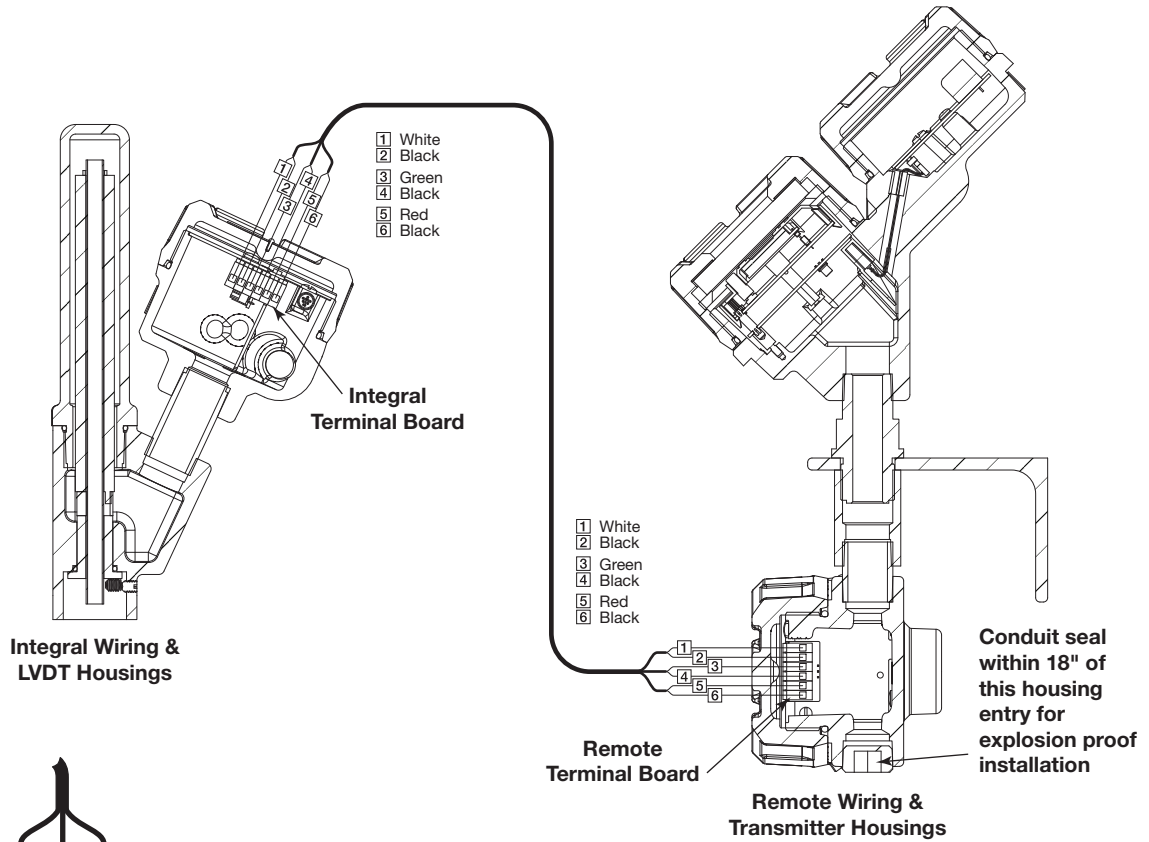

Figure 11
Wiring between the power supply and the E3 Modulevel transmitter should be made using minimum of 18 AWG shielded twisted pair instrument cable. Wiring must be suitable for temperatures up to at least +85° C. Within the transmitter enclosure, connections are made to the terminal strip and the ground connections. When installing a remote mount E3 transmitter, refer to Figures 11 & 12 on page 14 for wiring connections.
3. Connect one end of the six conductor cable (P/N 037-3226-xxx or 037-3227-xxx) to the integral terminal block and the other end to the terminal block within the remote terminal board housing. Be sure to match the six discrete numbered wires with the numbers on each terminal block. See Figures 11 & 12 on page 14.
1. Install Explosion Proof conduit from the remote mounted E3 transmitter head to the integrally mounted terminal housing at the LVDT. An Explosion Proof conduit fitting (EY seal) is required within 18" of the remote mounted transmitter head wiring housing (see figure 11). Follow steps 2 through 7 of Remote Mount wiring procedure on page 12.